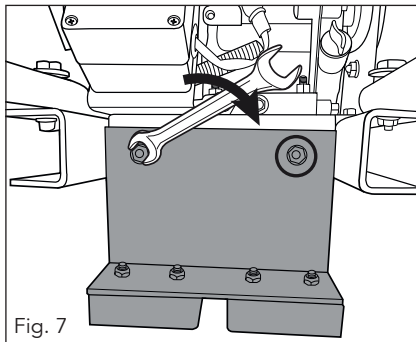

Fig. 7
1. Align the holes in the foot mounting bracket (8) with those in the base frame (9) and secure in place using the two bolts and nuts from the foot mounting bracket fasteners (22). Using a 12mm spanner securely tighten both nuts (fig. 7).